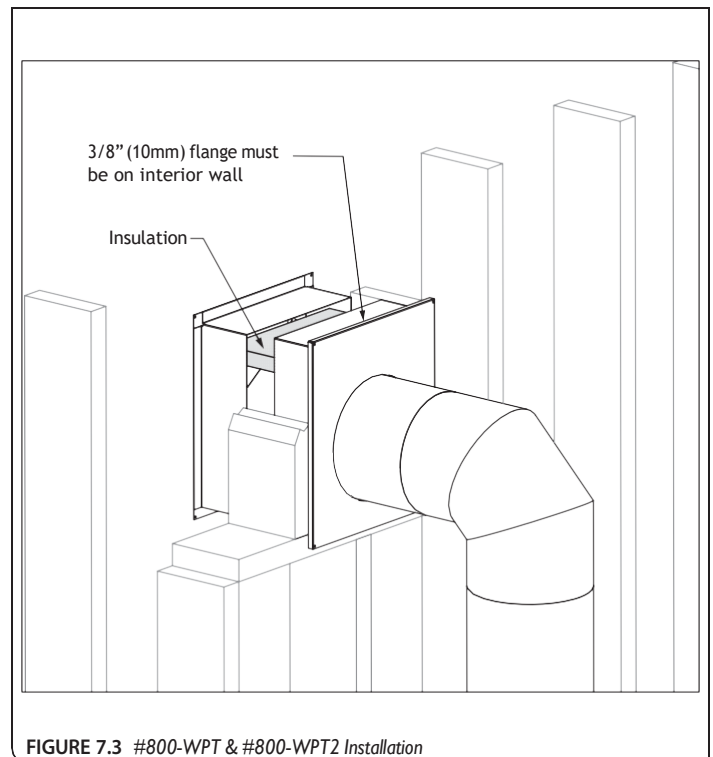

FIGURE 7.3 #800-WPT & #800-WPT2 Installation
2. Install wall pass-through section marked #1 (with 3/8" [10mm] flange) into framed opening. Secure to interior wall with screws (not provided). See FIGURE 7.3.